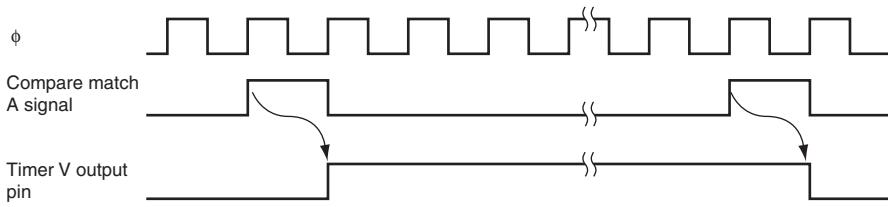

Figure 11.6 TMOV Output Timing
4. When a compare match A or B is generated, the TMOV responds with the output value selected by the OS3 to OS0 bits in TCSR0. Figure 11.6 shows the timing when the output is toggled by compare match A.